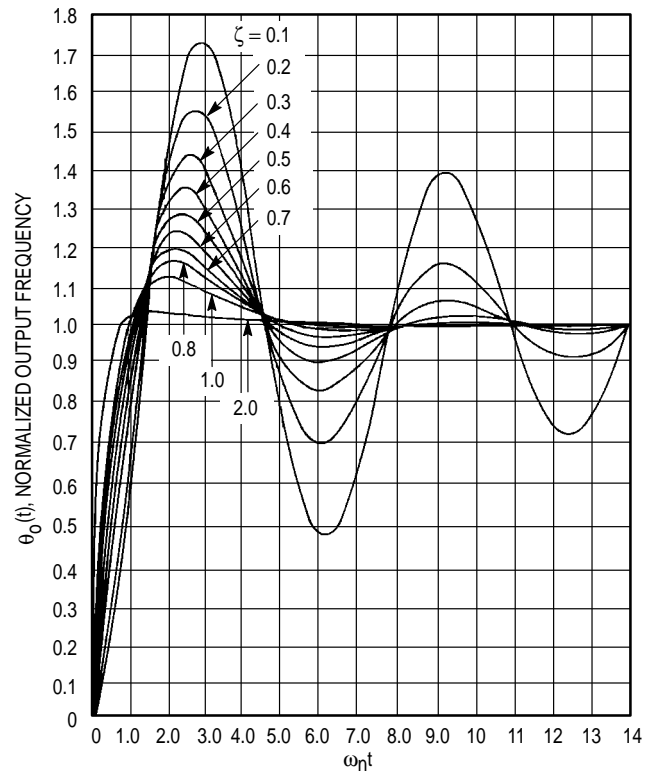

Figure 4. Type 2 Second Order Step Response
Next, reference application note AN535 (see book DL136/D Rev 3 or 4). The active filter chosen takes the form shown in Figure 9 of the application note. This filter is used with the single-ended phase detector output of the MC145170, PDout. The phase detector associated with PDout has a gain  $K_{\phi} = V_{DD}/4\pi$ . For a supply of 5 V, this is  $5/4\pi = 0.398 \text{ V/rad}$ . The system's step response is shown in Figure 4. To achieve about 15% overshoot, a damping factor of 0.8 is used. This causes frequency to settle to within 1% at  $\omega_n t = 5.5$ .
The circuit of Figure 5 may not function at very-high temperature. The reason is that the MC145170 is guaranteed to a maximum frequency of 160 MHz at 85°C. Therefore, there is no margin for overshoot (reference Figure 4) at high temperature. There are two possible solutions: (1) use the MC145170-1 or MC145170-2 which are rated to 185 MHz, or (2) limit the tuning to less than 160 MHz.